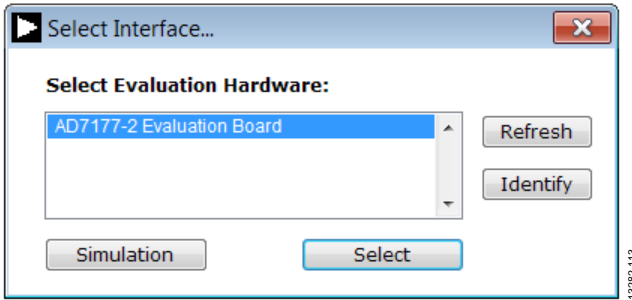
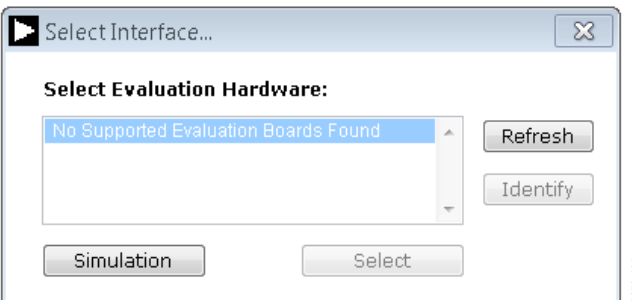
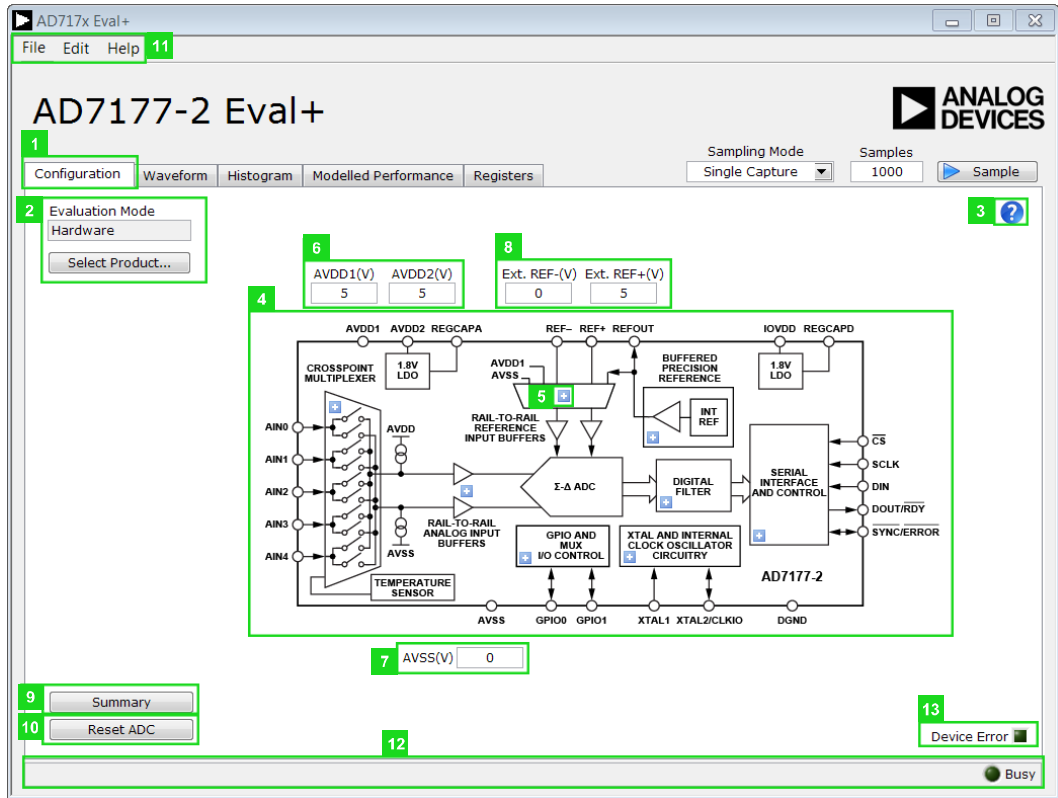
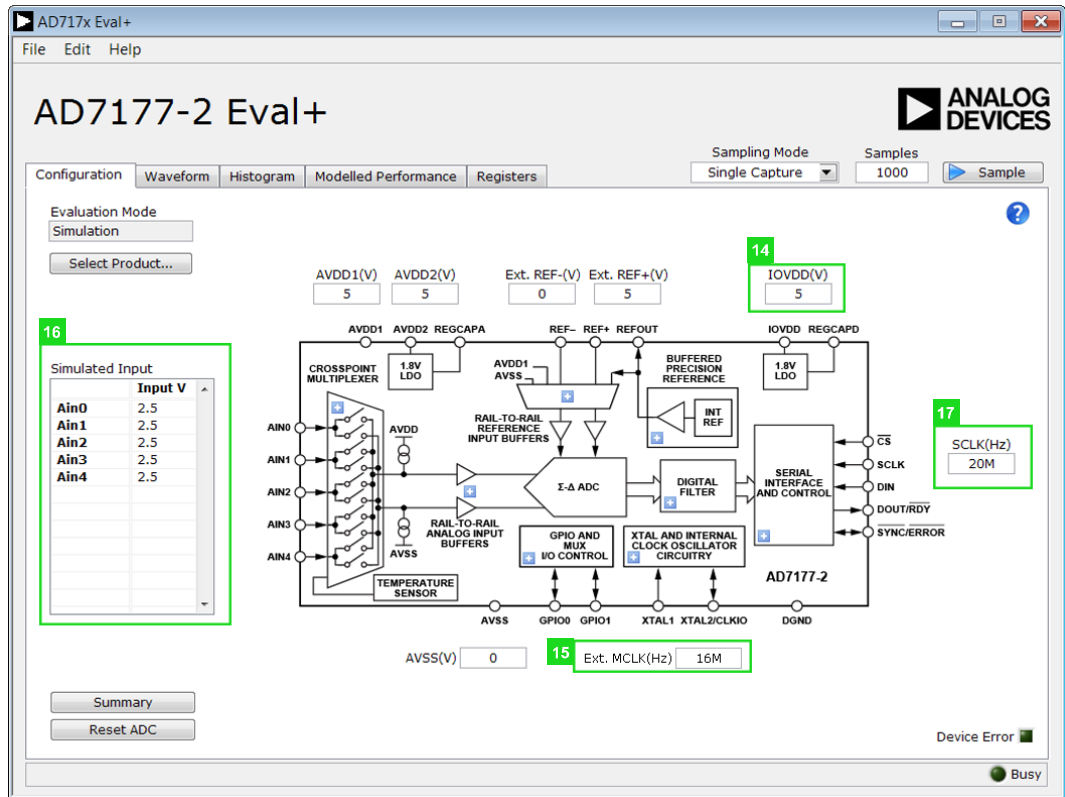

Figure 13. AD7177-2 Evaluation Board Selection
Figure 14. Evaluation Board Selection, No Board Connected
Figure 16. Configuration Tab of the AD7177x Eval+ Software in Hardware Mode
Figure 17. Configuration Tab of the AD717x Eval+ Software in Simulation Mode
2. The dialogue box in Figure 13 appears; select **AD7177-2 Evaluation Board** and click the **Select** button. The main window of the software box displays as shown in Figure 16.
3. If the EVAL-AD7177-2SDZ evaluation system is not connected to the USB port via the SDP-B when the software is launched, the software displays the dialog box shown in Figure 14. Connect the evaluation board to the USB port of the PC; wait a few seconds, click **Refresh** and the option shown in Figure 13 appears.
Figure 16 shows the **Configuration** (1) tab when **Hardware** mode is selected and Figure 17 shows the **Configuration** tab when **Simulation** mode is selected. The controls highlighted in Figure 17 are only available in **Simulation** mode.
The **Evaluation Mode** (2) pane displays the evaluation mode in use. To switch between modes, click the **Select Product...** button, and the dialog box shown in Figure 13 appears.
The text fields labeled 6, 7, and 14 in Figure 16 and Figure 17 are input fields that are used to take the supply voltage levels selected for the AD7177-2. Checks are performed to ensure that the power supply voltage levels entered are within the specified limits. These power supply voltage levels are also used for the modelled performance to calculate the power dissipation.